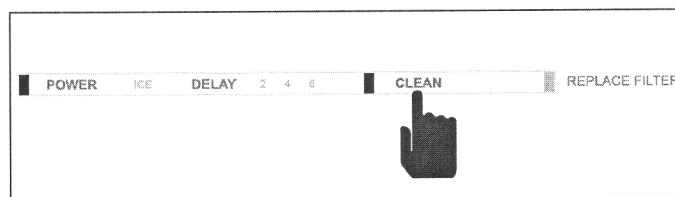

Figure 4-5. Start Sanitize Cycle, Press "CLEAN"
5. Press the CLEAN button again, this time to start the sanitize cycle (See Figure 4-5).